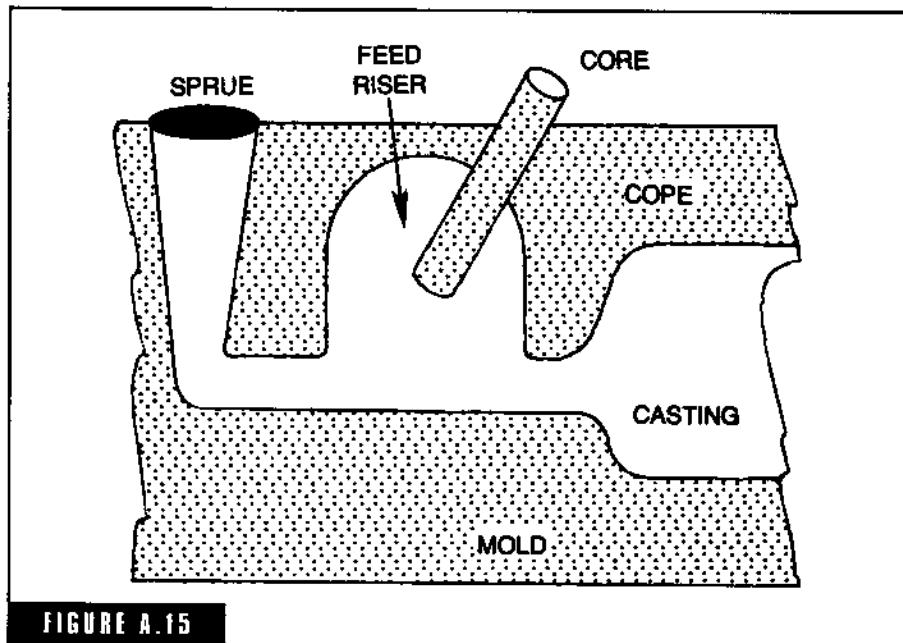

FIGURE A.15
**atmospheric feeder** The theory behind the atmospheric feeder is that upon solidifying and shrinking, the casting forms a partial vacuum in the mold cavity (Fig. A-15). If a connection can be made with the liquid metal in the riser (during this time and action) to the atmosphere, the *atmospheric pressure* will assist in feeding the casting and prevent *shrinkage cavities* due to lack of feed metal. It is a function of differential pressures. By placing a dry sand core extending into a feed riser or gate, you prevent the solidifying skin from closing the liquid metal off from the atmosphere, allowing the atmosphere to exert its pressure to assist in feeding the casting. This system is widely used in steel castings,